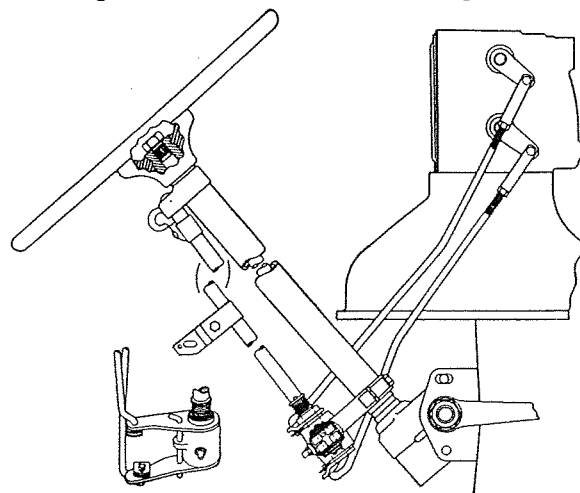

Fig. 39—Willys 1940-42
1940-42: (See Fig. 39.) (1)—To make an adjustment, shift the hand control lever to its neutral position. (2)—Align the pinholes in the levers at the bottom of the main shifting rod to hold them in their neutral positions. (3)—Disconnect the control rods from the levers at the transmission and place the transmission levers in neutral. (4)—Finally, adjust the length of the control rods so that they will just slip into their respective levers on the transmission without moving the levers from their neutral position.